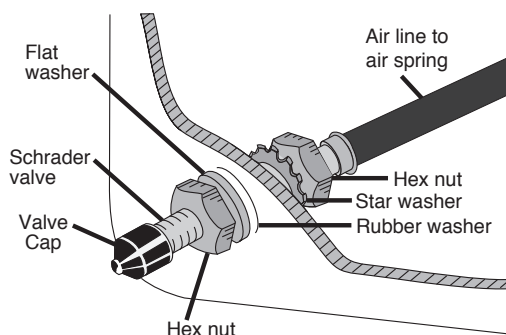

fig. 17
4. Place a 5/16" nut and star washer on the air valve. Leave enough of the inflation valve in front of the nut to extend through the hole and have room for the rubber washer, flat washer, and 5/16" nut and cap. There should be enough valve exposed after installation – approximately 1/2" – to easily apply a pressure gauge or an air chuck (Fig. 17).